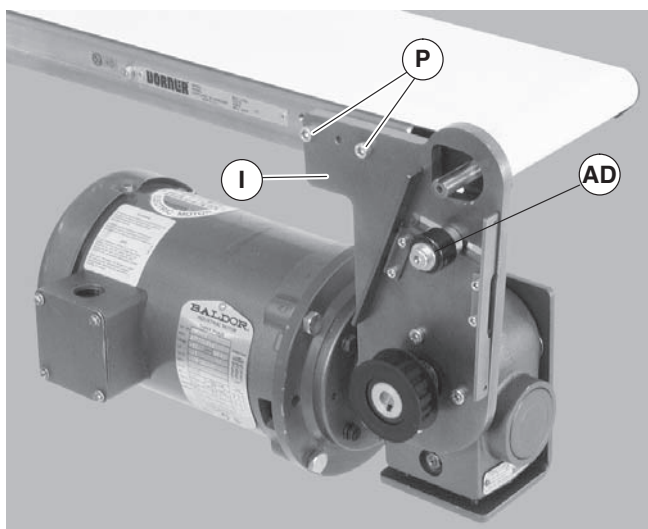
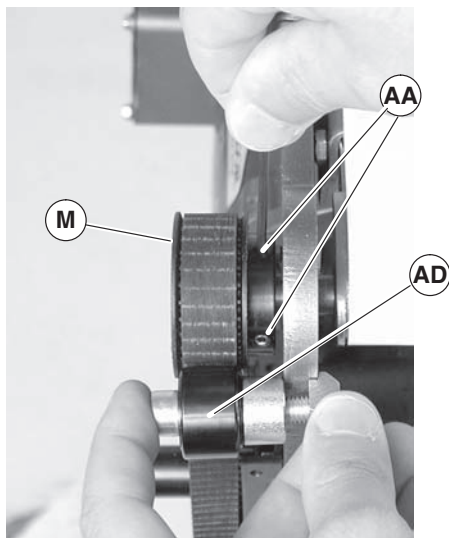

Figure 12
Figure 17
5. Attach bottom mount assembly (Figure 12, item I) with screws (P). Tighten to 80 in-lb (9 Nm). Proceed to step 10.
7. Attach bottom mount assembly (Figure 12, item I) with two screws (P). Tighten to 80 in-lb (9 Nm).
11. Wrap timing belt (O) around driven pulley (M) and drive pulley (J). Install driven pulley (M) onto conveyor shaft.
12. Remove cam bearing and spacer (Figure 12, item AD). Place cam bearing and spacer (Figure 17, item AD) next to driven pulley (M). Ensure flanges of driven pulley are aligned with cam bearing. Tighten driven pulley set screws (AA). This will allow for proper belt alignment while conveyor is in use. Install cam bearing and spacer (AD).